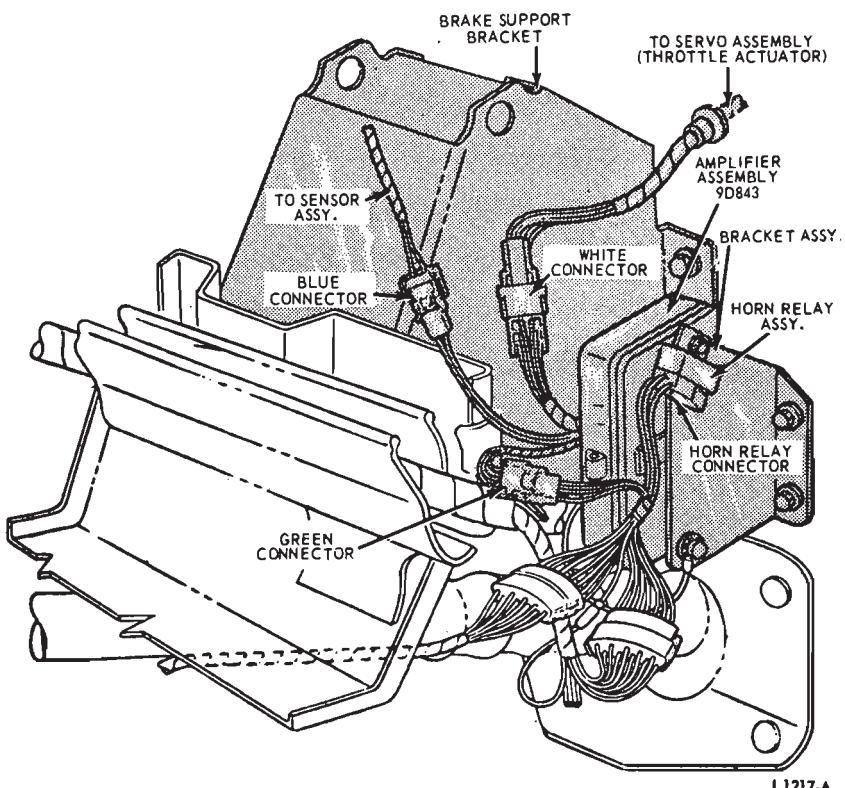

FIG. 8—Speed Control Amplifier Assembly
5. Attach the blue electrical connector to the amplifier connector (Fig. 8).
1. Disconnect the speed sensor, servo assembly (throttle actuator), horn relay and the amplifier assembly wire harness connectors (Fig. 8).
(Fig. 8).
3. Under the instrument panel, connect the servo assembly connector to the amplifier (Fig. 8).